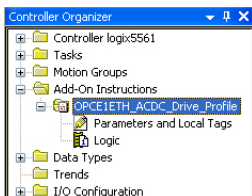

Figure 96: AC/DC Drive Profile AOI
- 2) Right click on "Add-On Instructions" in the controller organizer view and select "Import Add-On Instruction". Browse and import the AC/DC drive profile AOI. Refer to Figure 96.